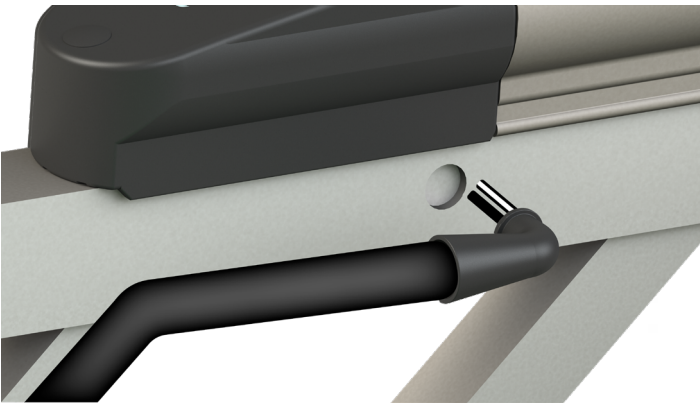

Fig.21
C. Thread the battery receiver cord power wires up through the deck-side fence railing's wire access hole (Fig.21).